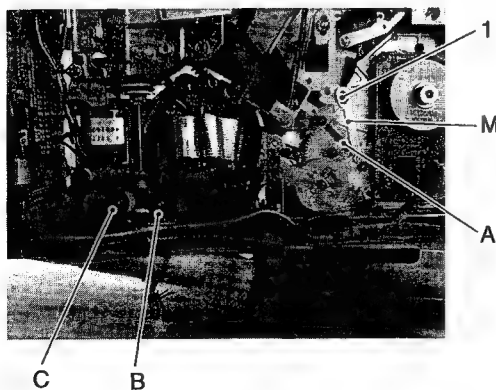

Fig. 2-6-18
1. Attach by reversing the removal procedure (see Fig. 2-6-18).